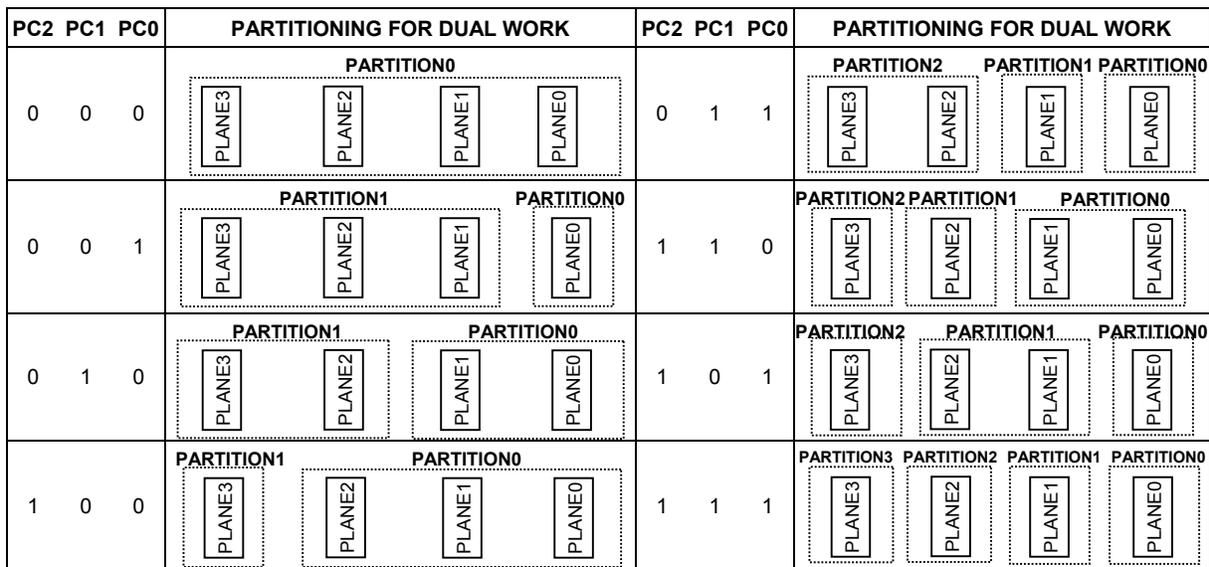

Figure 4. Partition Configuration
<p>PCR.150-11 = RESERVED FOR FUTURE ENHANCEMENTS (R)</p> <p>PCR.10-8 = PARTITION CONFIGURATION (PC2 - 0) 000 = No partitioning. Dual Work is not allowed. 001 = Plane1 - 3 are merged into one partition. (default in a bottom parameter device) 010 = Plane 0-1 and Plane2 - 3 are merged into one partition respectively. 100 = Plane 0 - 2 are merged into one partition. (default in a top parameter device) 011 = Plane 2 - 3 are merged into one partition. There are three partitions in this configuration. Dual work operation is available between any two partitions. 110 = Plane 0 - 1 are merged into one partition. There are three partitions in this configuration. Dual work operation is available between any two partitions. 101 = Plane 1 - 2 are merged into one partition. There are three partitions in this configuration. Dual work operation is available between any two partitions.</p>	<p>111 = There are four partitions in this configuration. Each plane corresponds to each partition respectively. Dual work operation is available between any two partitions.</p> <p>PCR.7 - 0 = RESERVED FOR FUTURE ENHANCEMENTS (R)</p> <p style="text-align: center;">NOTES:</p> <p>After power-up or device reset, PCR10-8 (PC2 - 0) is set to "001" in a bottom parameter device and "100" in a top parameter device.</p> <p>See Figure 4 for the detail on partition configuration.</p> <p>PCR.15 - 11 and PCR.7 - 0 are reserved for future use and should be masked out when polling the partition configuration register.</p>